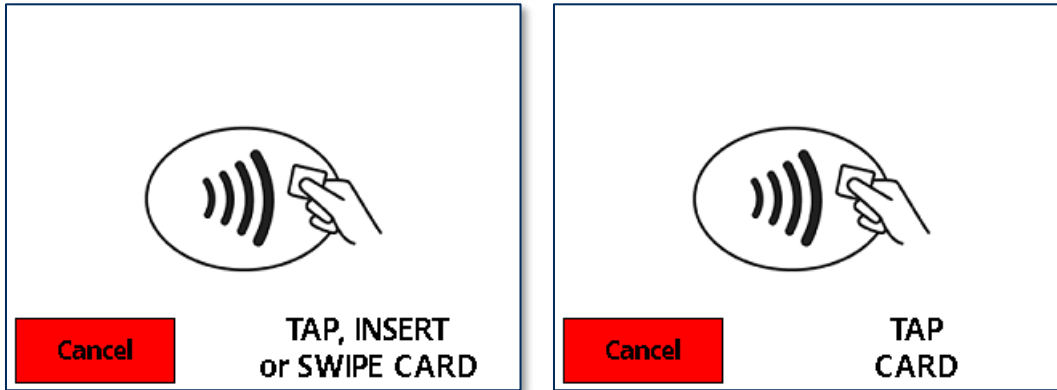

Figure 4-12 – Example Contactless Transaction Screens
- a) Devices with a touchscreen show on-screen text and buttons (see **Figure 4-12 below** for examples).
- 3) Briefly hold the card, smartphone, or other contactless payment device over the contactless landing zone, indicated by the EMVCo Contactless Indicator symbol on the device’s face (see **Figure 4-12**). Because each smartphone model may have its NFC antenna placed differently, the ideal tap position may vary by make and model. For example, Samsung users may need to center the phone on the contactless landing zone, while Apple users may need to tap the top of the phone on the contactless landing zone.
- a) Devices with a touchscreen display on-screen text and buttons (see **Figure 4-12** for examples) via the host.